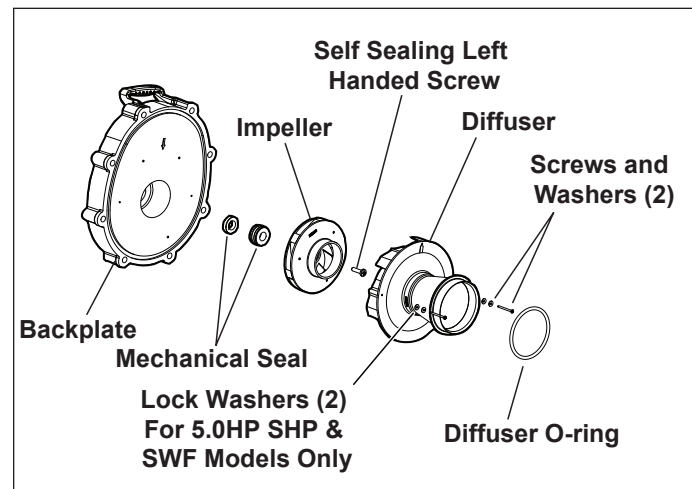

Figure 11. Backplate, Impeller, Diffuser, and Mechanical Seal Exploded View
6. Replace the two (2) small Phillips head screws. Tighten the screws to draw the diffuser against the motor backplate. For 5.0HP, SWF models only, use additional lock washers. See Figure 11.
NOTE Refer to Figure 11 for an illustration of the location of the mechanical seal and impeller.